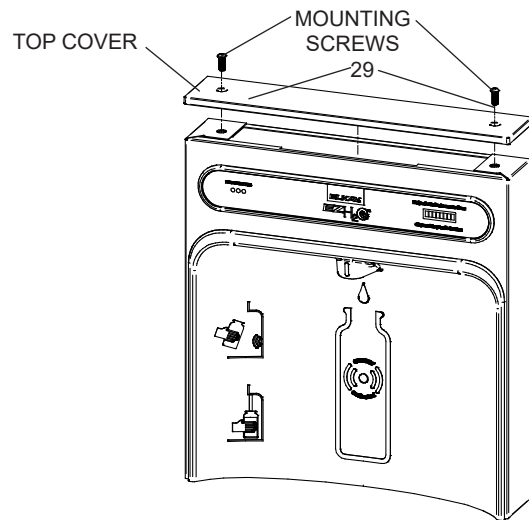
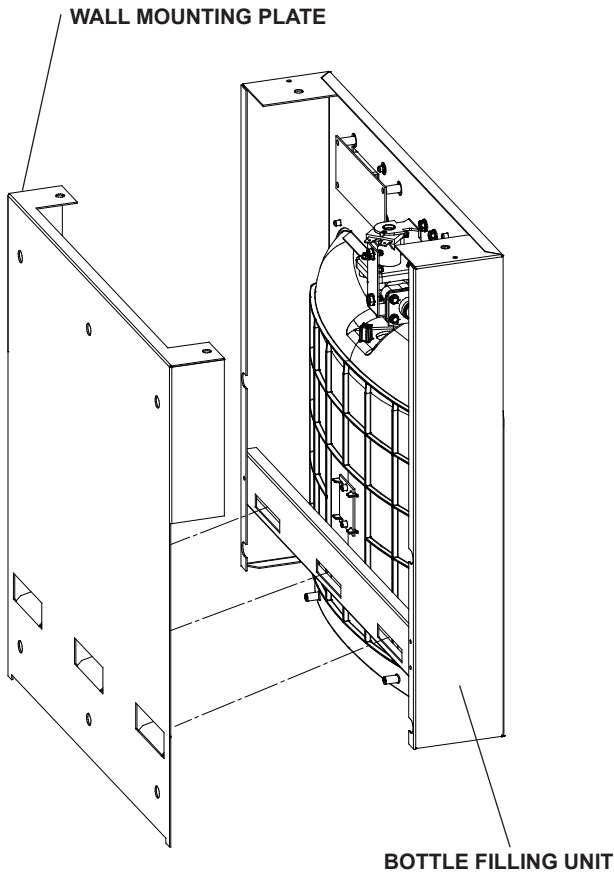

Fig. 5
Fig. 8
- 1) Remove two (2) mounting screws with 5/32" Allen wrench holding top cover to Bottle Filler (See Fig. 5). Remove top cover. Note do not discard mounting screws, they will be needed to reinstall top cover.
- 10) With the power cord, wire(s), and waterline through hole on top of water cooler place Bottle Filler on the three (3) angled tabs protruding from the wall mounting plate installed on wall. Make sure round boss in gasket fits in hole of basin. (See Fig. 8).
- 11) Once Bottle Filler is installed on wall plate tabs, water line, wire(s) and power cord are installed properly, push top of Bottle Filler toward wall and line up top cover two (2) holes.
- 12) Reinstall Top Cover on Bottle Filler (See Fig. 5) with two mounting screws from step 1 above. Caution, do not over tighten screws.